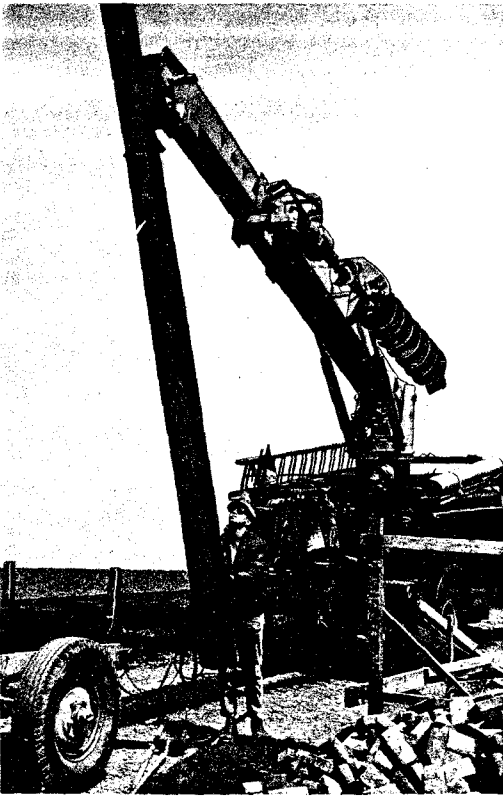

Fig. 8—Pole Held in Position With Boom Tip Winch
6.03 When the pole has been raised to a vertical position, take up fully on the winch (if the boom is so equipped, operate the pole claw or grabber) to hold the pole securely as illustrated in Fig. 8.